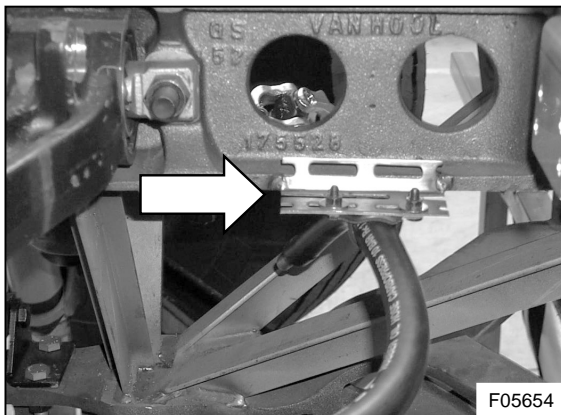

Figure 7: Right hand hose to chassis mounting bracket and clamp
- 3) Undo and remove the two bolts securing the hose clamp to the chassis angle bracket shown in Figure 7. Save the bolts for re-use. Discard clamp VH 637100190.